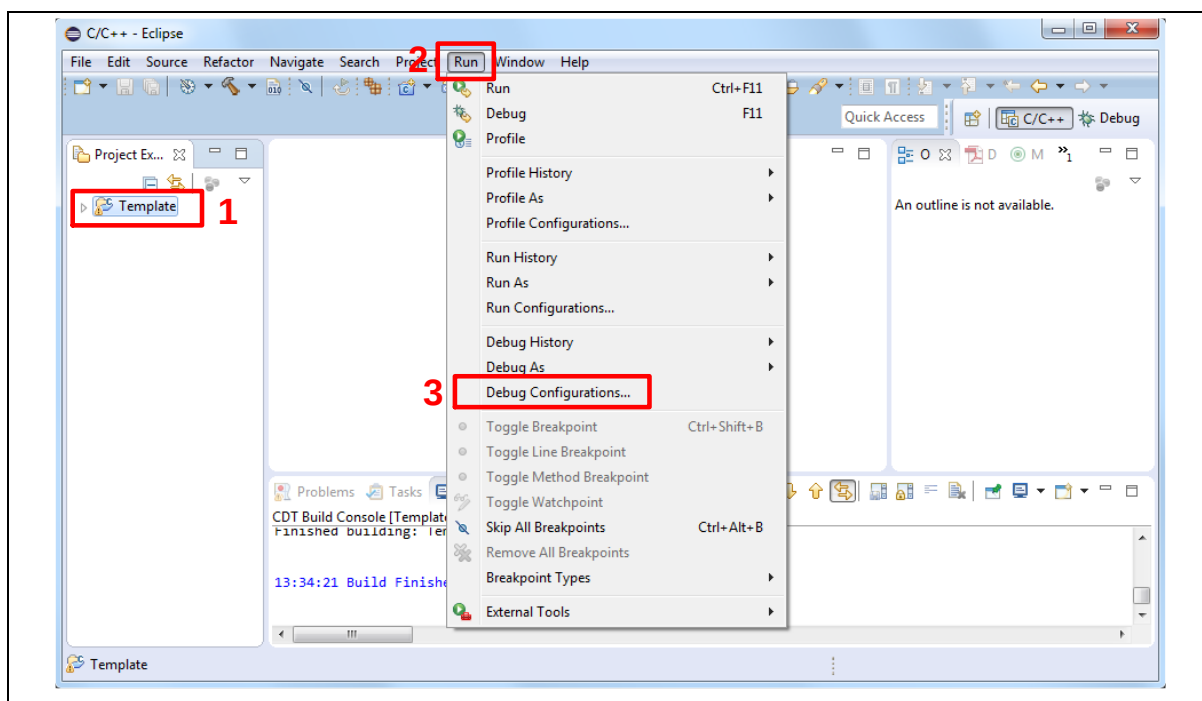
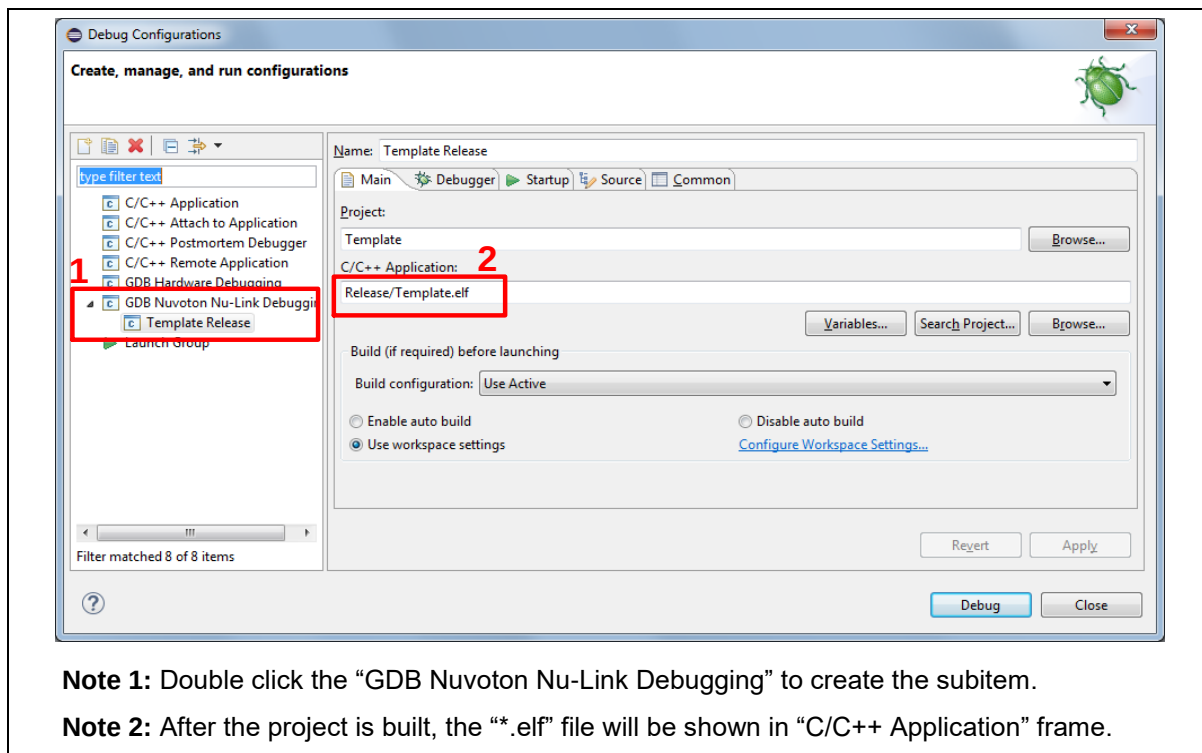
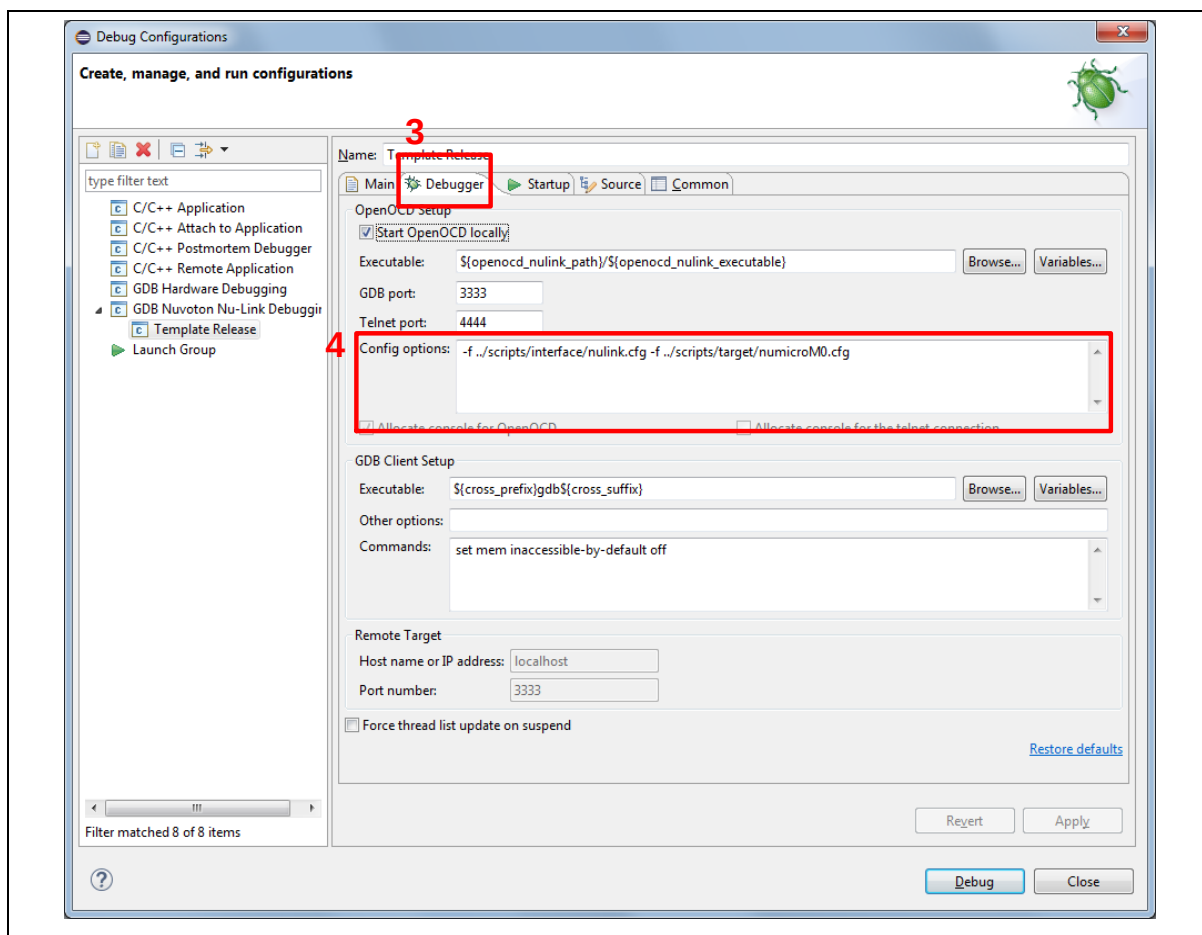
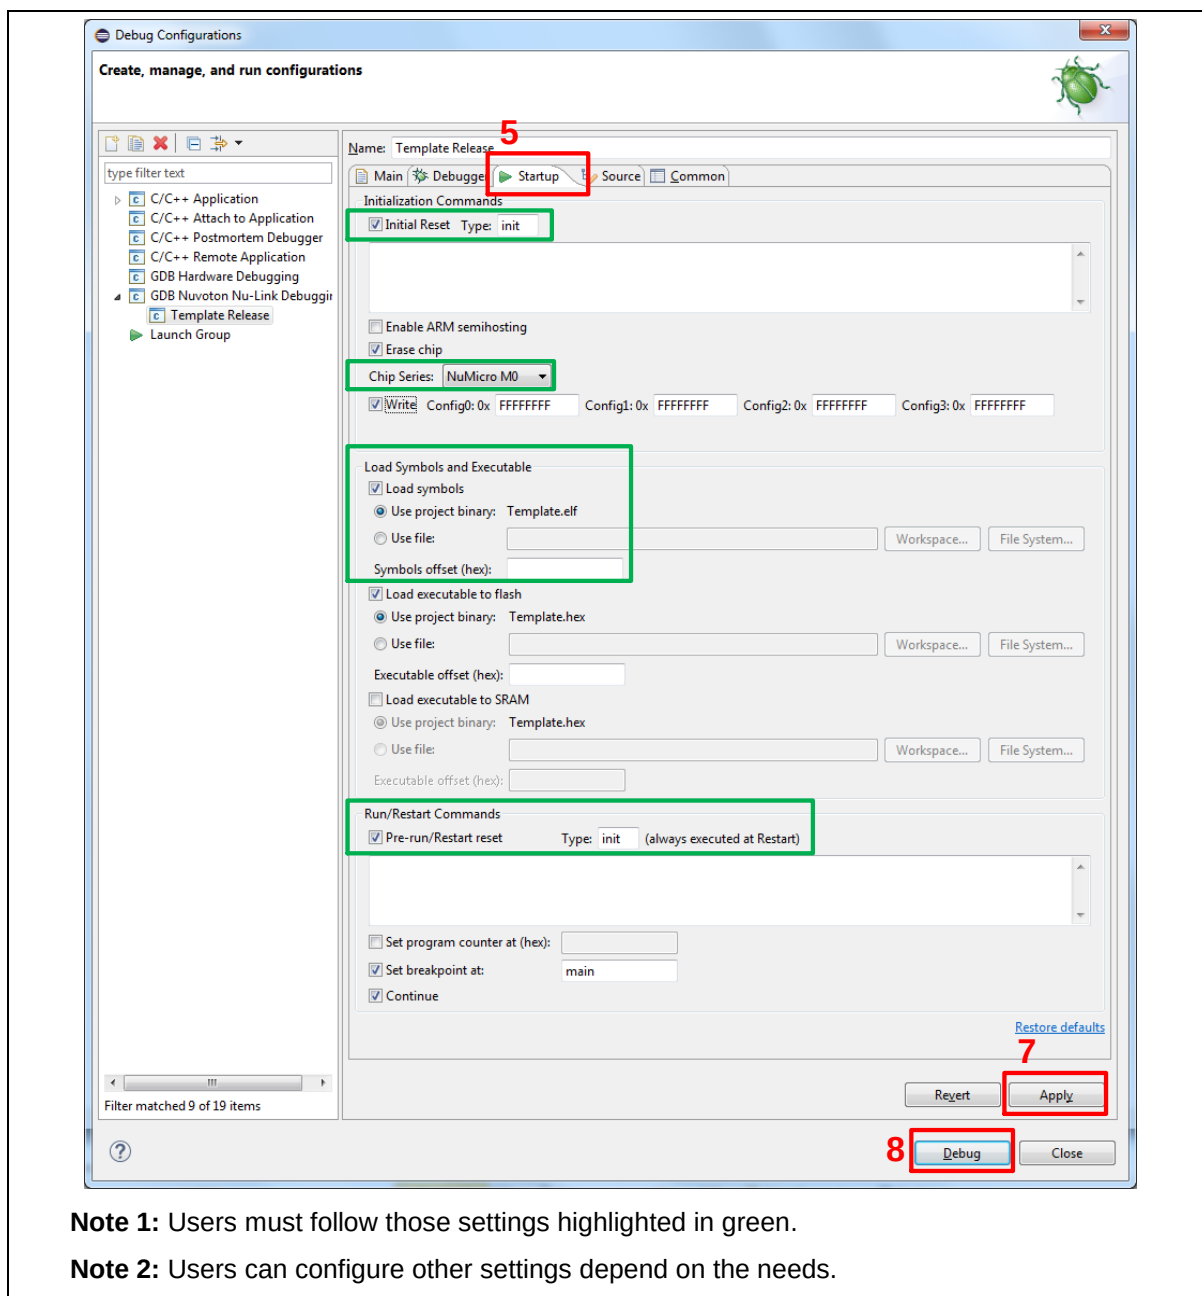

Figure 5.2-41 Open Debug Configuration
Figure 5.2-42 Main Tab Configuration
Figure 5.2-43 Debugger Tab Configuration
Figure 5.2-44 Debugger Tab Configuration
- (6) After the project is built, click the “Template” project and set the “Debug Configuration” as shown in Figure 5.2-41. Follow the settings presented in Figure 5.2-42, Figure 5.2-43 and Figure 5.2-44 to enter debug mode.